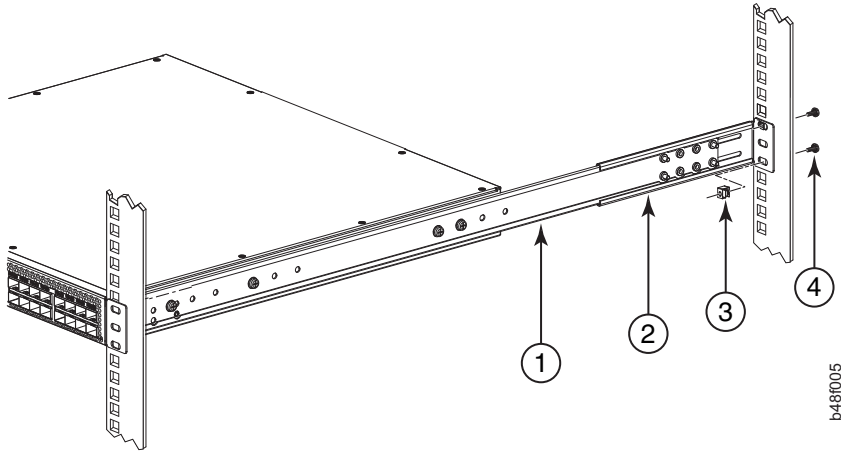

Figure 7. Attach the rear bracket to the cabinet rail
1. Attach the right rear bracket **2** to the right rear cabinet rail using two 10-32 x 5/8 in. screws **4** and two retainer nuts **3**, as shown in Figure 7.